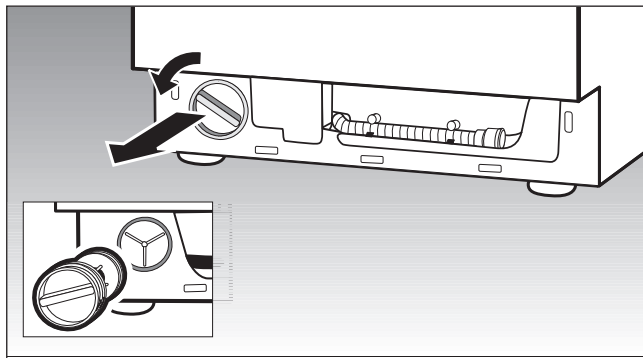

Figure 27
- Remove the pump cover by turning it counter-clockwise and pulling it out. See Figure 27.